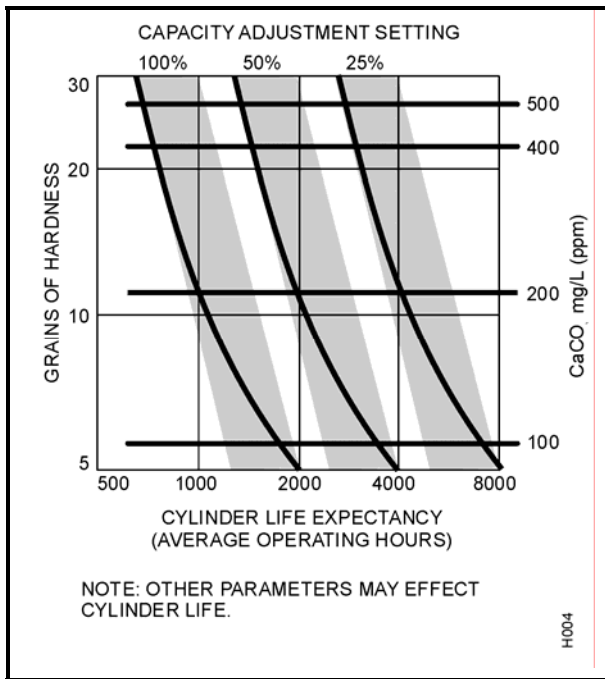

**Figure 4. Typical Auto-Adaptive Operation**
- (6) As the water is boiled away, the minerals left behind increase the conductivity of the water in the cylinder. As soon as the conductivity is greater than design, the  $T_a$  to boil from A to D will be shorter than  $T_o$  and a drain cycle is initiated.
- (7) The fill valve always opens during timer drains, adding cold water to mix with the hot water from the cylinder during automatic drain cycles. This tempering process is required to meet plumbing codes.
- (8) As can be seen from a typical sequence depicted in Figure 4, the P+I Auto-Adaptive system allows the unit to be self-regulating. It drains only when necessary and only the amount of water to maintain optimum operating conditions.
- (9) Relying on the proportional (P) feedback only to decide how much to drain is like guessing what is happening based on a 'snapshot' only. By taking into consideration a series of "snapshots": (one from each of the past ten cycles for example), the control system has more data on which to base its decision to drain. The integral (I) part of the P+I Auto-Adaptive system provides this added feedback.
- (10) The proportional (P) and integral (I) factors have been weighted as to the relative influence each will have when the NHTC/NHPC calculates a drain. The preprogrammed weighing was derived through extensive field and laboratory tests. When supply water conductivity is extremely high (requiring substantially more drains), the NHTC/NHPC will see the pattern developing in cycles stored in memory. It will then initiate additional drains to adjust the contained water conductivity.
- (11) If low conductive water conditions occur, the P+I control will reduce the drains necessary to maintain optimum operating conditions within the cylinder. If extreme water conditions are encountered, the NHTC/NHPC can be reprogrammed with factory instructions to compensate.
- (12) NORTEC's P+I Auto-Adaptive control system has been designed to benefit users who demand very tight control of the relative humidity. It maintains steam output above the B level, even during auto drains. (See Figure 4.)
- (13) The P+I Auto-Adaptive control system allows the humidifier to maintain tighter humidity control without the problem of rh depression during drain cycles that occur with other humidifiers. This results in more consistent space rh levels, even with a simple on/off control system.